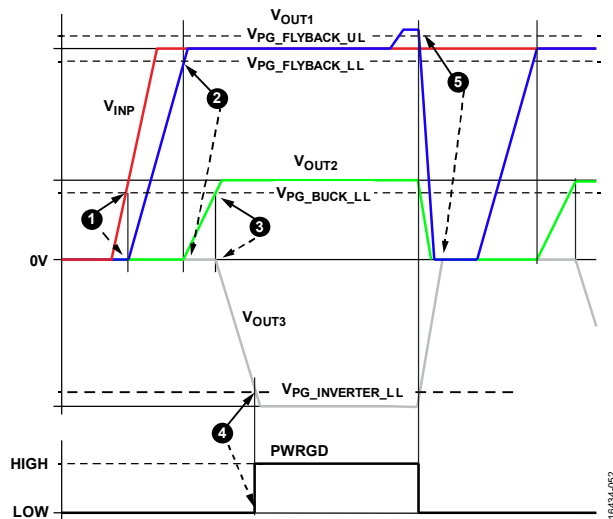

Figure 66. Power-Up Sequencing and PWRGD
The power-up sequence is as follows (see Figure 66):
1. The flyback regulator powers up first (see 1 in Figure 66).
2. When VOUT1 rises above the lower power-good threshold ($V_{PG_FLYBACK_LL}$), the buck regulator turns on (see 2 in Figure 66).
3. When the buck regulator output (VOUT2) rises above the lower power-good threshold ($V_{PG_BUCK_LL}$), the inverting regulator turns on (see 3 in Figure 66).
4. PWRGD is driven high when the inverting regulator output (VOUT3) is below the power-good threshold, $V_{PG_INVERTER_LL}$ (see 4 in Figure 66).
5. If any of the three analog supplies move outside the power-good threshold ranges, PWRGD drives low after a short glitch delay (see 5 in Figure 66).